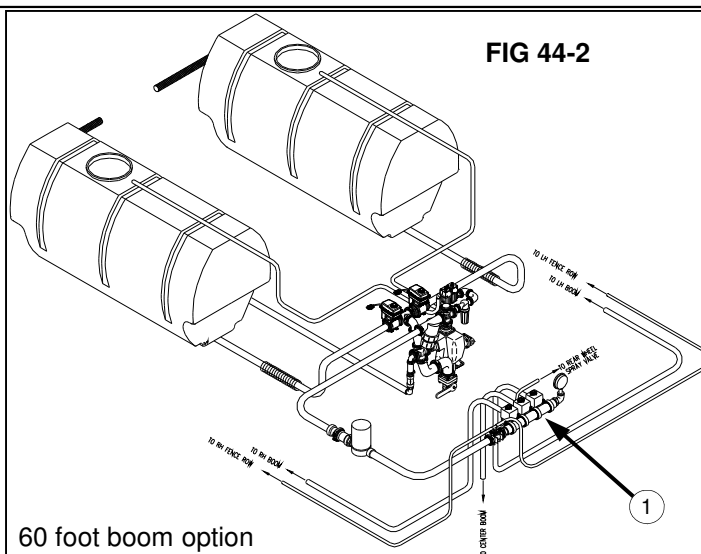

FIG 44-2
**Electric solution valves**– The spray booms are divided into sections that are independently supplied with solution and can therefore be independently shut off or tuned on. Sixty foot booms are divided into three sections and the valves are mounted on the transom (fig. 44-2, item 1).